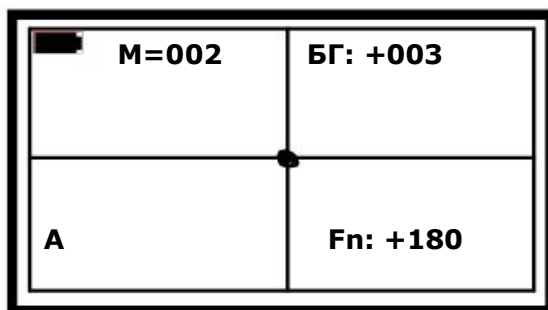

Fig. 15
3. Press the button [GB]. The device will enter the automatic ground balance mode (Fig. 15):